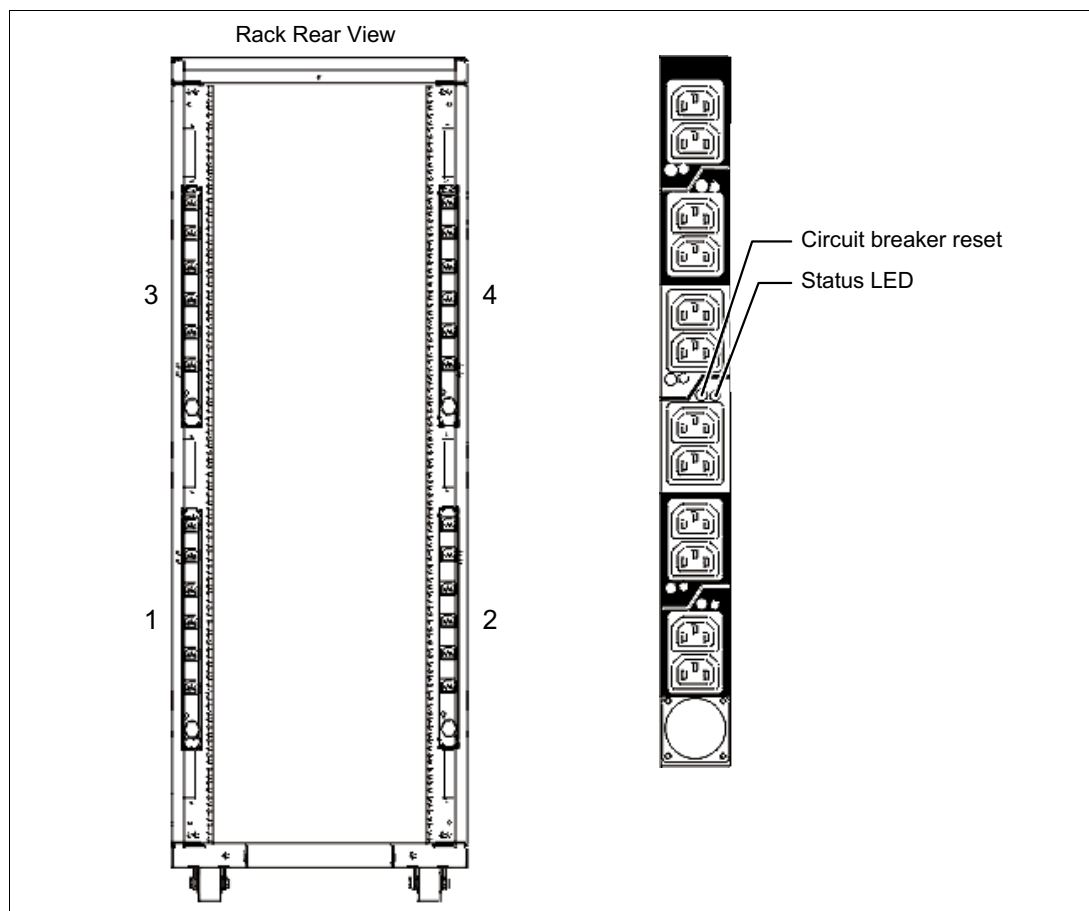

Figure 1-13 Power distribution unit placement and view
- ▶ Up to four PDUs can be mounted in the PDU bays (see Figure 1-13 on page 46), but others can fit inside the rack. For more information, see 1.9.7, “The AC power distribution unit and rack content” on page 45.
Four PDUs can be mounted vertically in the back of the T00 and T42 racks. Figure 1-13 shows the placement of the four vertically mounted PDUs. In the rear of the rack, two more PDUs can be installed horizontally in the T00 rack and three in the T42 rack. The four vertical mounting locations are filled first in the T00 and T42 racks. Mounting PDUs horizontally uses 1U per PDU and reduces the space that is available for other racked components. When mounting PDUs horizontally, the preferred approach is to use fillers in the EIA units that are occupied by these PDUs to facilitate proper air-flow and ventilation in the rack.